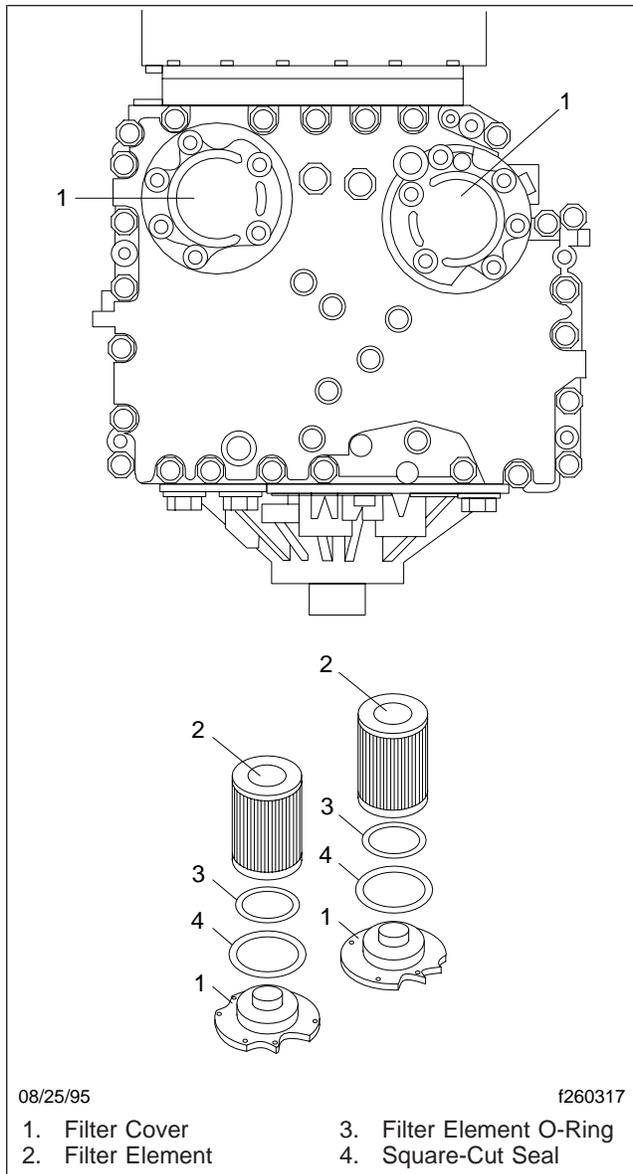

Fig. 4, Allison 3000 Series Transmission Filter Location and Components
5. Remove the filter covers, O-rings, and two square-cut seals from the transmission. See **Fig. 4**.